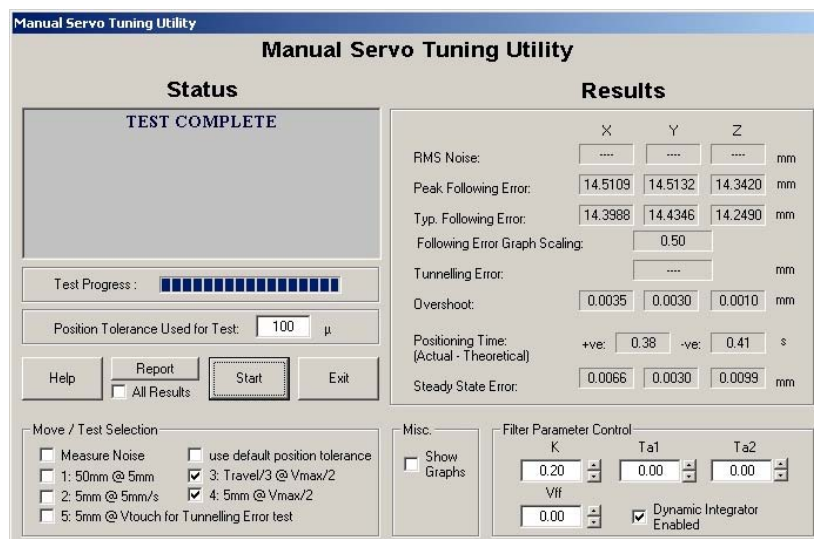

Figure 27
2. Select tests 3 and 4 as shown in figure 27 below:
3. Click the Start button to run the selected tests initially with no value in the Vff input box. When the test has completed note the values of peak following error and overshoot for all axes. The results shown in figure 27 show a low value for the overshoot but a high following error.